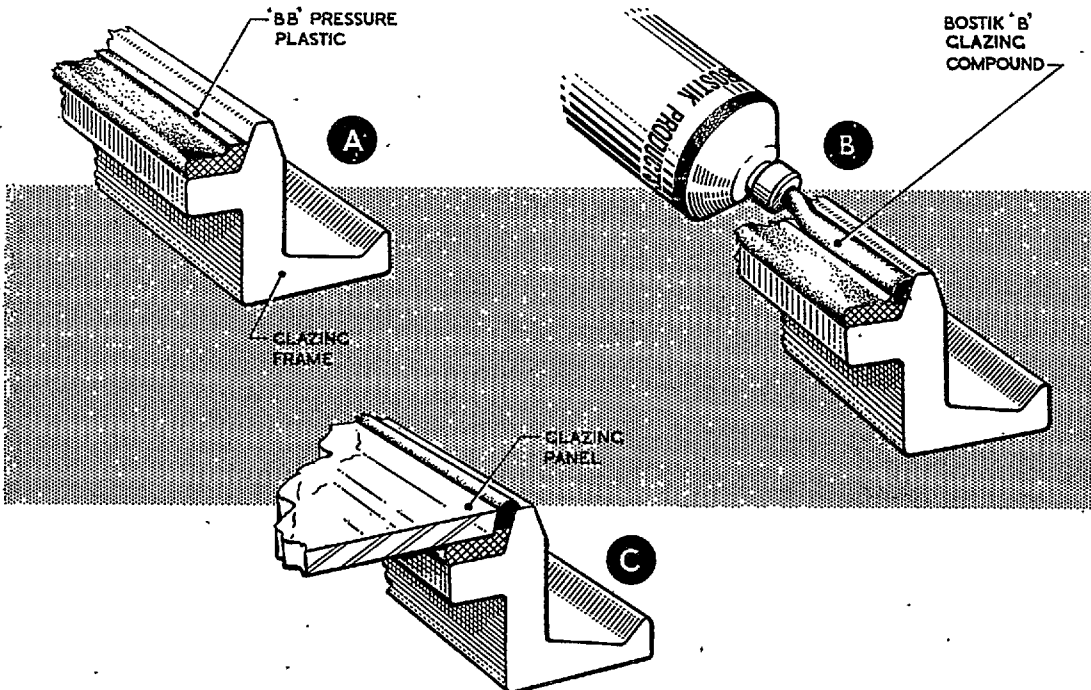

Fig. 2.—Mounting and sealing glazing panels
20. The plastic should be prepared as described in para. 14 and a strip of suitable dimensions, see A, fig. 2, pressed lightly on the glazing frame. A bead of Bostik-B should be extruded liberally along the outer edge of the plastic as shown in sketch B and the glazing panel should be bedded down on the plastic. The panel should be so fitted that the Bostik-B forms a complete seal as at C. After 24 hours, any surplus Bostik-B may be trimmed off with a sharp wet knife.